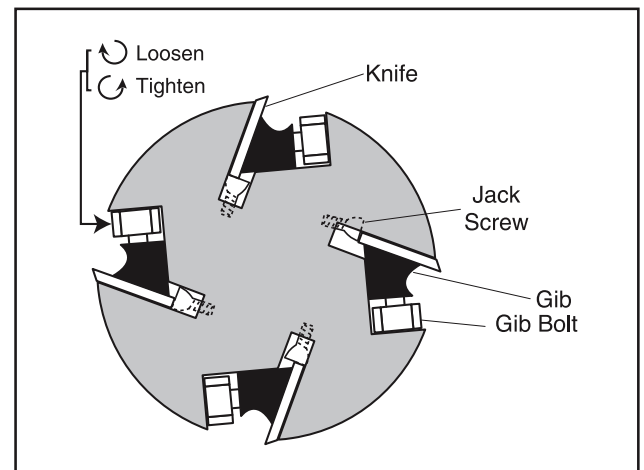

Figure 13. Cutterhead profile diagram.
3. Lift lid and engage support bracket (B) Fig.13 / Fig.14 into recess (C) Fig.13 to prevent lid from closing.
This planer comes with jack screws for adjusting the height of the knives in the cutterhead (see **Figure 13**).